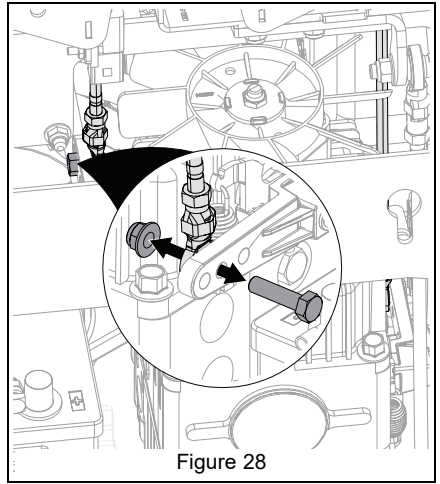

Figure 28
2. Remove and retain hardware securing control linkages to hydro-pump. See Figure 28.